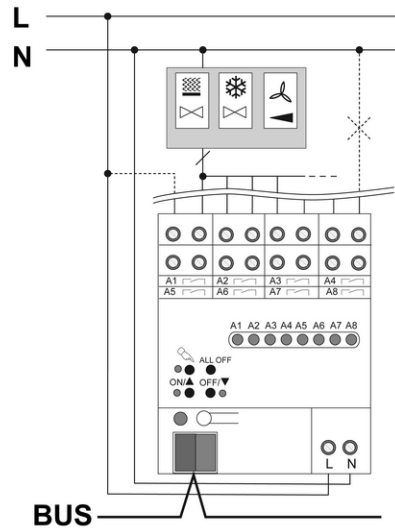

Figure 3: Connection example – load connection for 1 fan-coil output
- Connect bus cable with connecting terminal (figure 3).
- i** A fan-coil output with up to six fan levels: see connection example (figure 3). Information regarding assignment of the outputs in (table 2), (figure 4) and (figure 5).